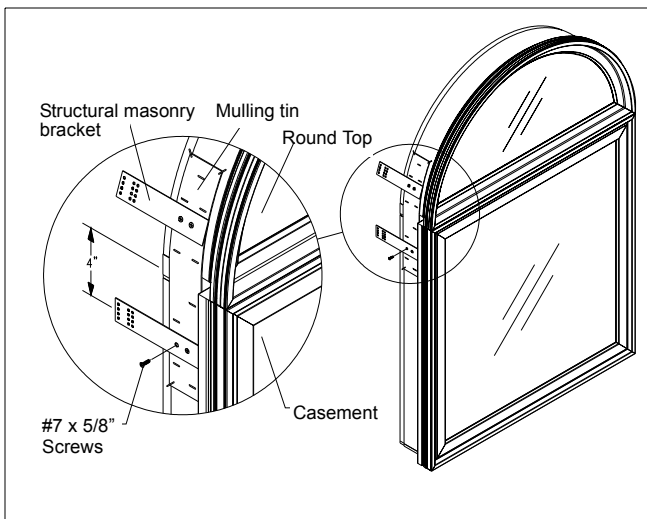

Figure 34
7. When mulling RT2 or RT6 over a casement unit, apply one structural masonry bracket approximately 4" (102) from each side of the mullion on both jambs. Attach each of the brackets with one of the #7 x 5/8" screws provided. See figure 34.